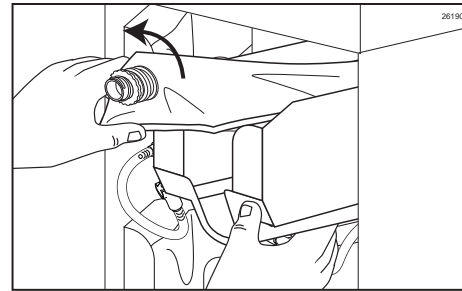

Figure 40
3. Pull the tray forward and remove the syrup bag. Discard the syrup bag if it is empty or expired. If the bag has usable syrup, store the syrup as directed on the label. (See Figure 40.)